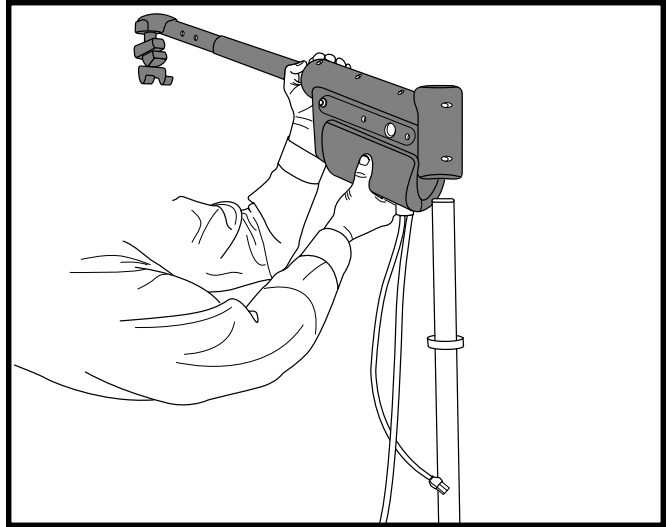
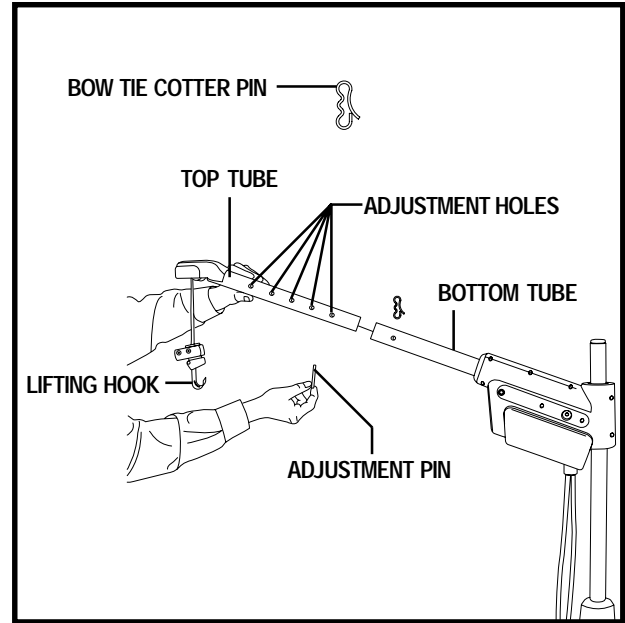

Figure 7. Motor Housing Installation
Figure 9. Boom-arm Adjustment
3. Lower the motor housing over the upper post until it rests on the height adjustment ring. **See figure 7.**
You may need to adjust the height of the motor housing (see figures 7 and 8) or the length of the boom-arm (see figure 9) so the boom-arm can swing freely without hitting at any point inside the vehicle.
Before adjusting the boom-arm, lower the lifting hook about 12 in. (30.5 cm). This will provide enough slack in the strap to enable the adjustable portion of the boom-arm (top tube) to be pulled out of the bottom tube to its farthest adjustment hole. **See figure 9.**